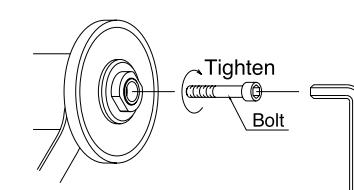

Fig.8
- ④ Insert the bolt into the spindle, fasten the flange with the hexagon wrench.(Fig.8)